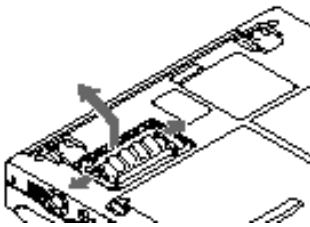

Figure 4-13 Removing a Memory Upgrade Module
7. Align the memory upgrade module with the part side up. Align the connector edge of the memory upgrade module with the connector slot in the compartment. The connector will be pointing toward the rear of the notebook. (Figure 4-13.)
8. Insert the memory upgrade module at a 45° angle. (Figure 4-13.) Press the connector edge of the module firmly down and into the connector.
2. Pull the clips sideways away from each side of the memory upgrade module at the same time. (Figure 4-13.)
3. While holding the clips out, remove the module from the slot by lifting it up and pulling towards the front of your notebook. (Figure 4-13.)
6. **Set your notebook on the Docking Station Leveler, making sure that the Alignment pins on the leveler (Figures 4-13 and 4-16), fit into the Docking Alignment receptacles in the bottom of your notebook. (See Figure 1-10 on page 9.)**